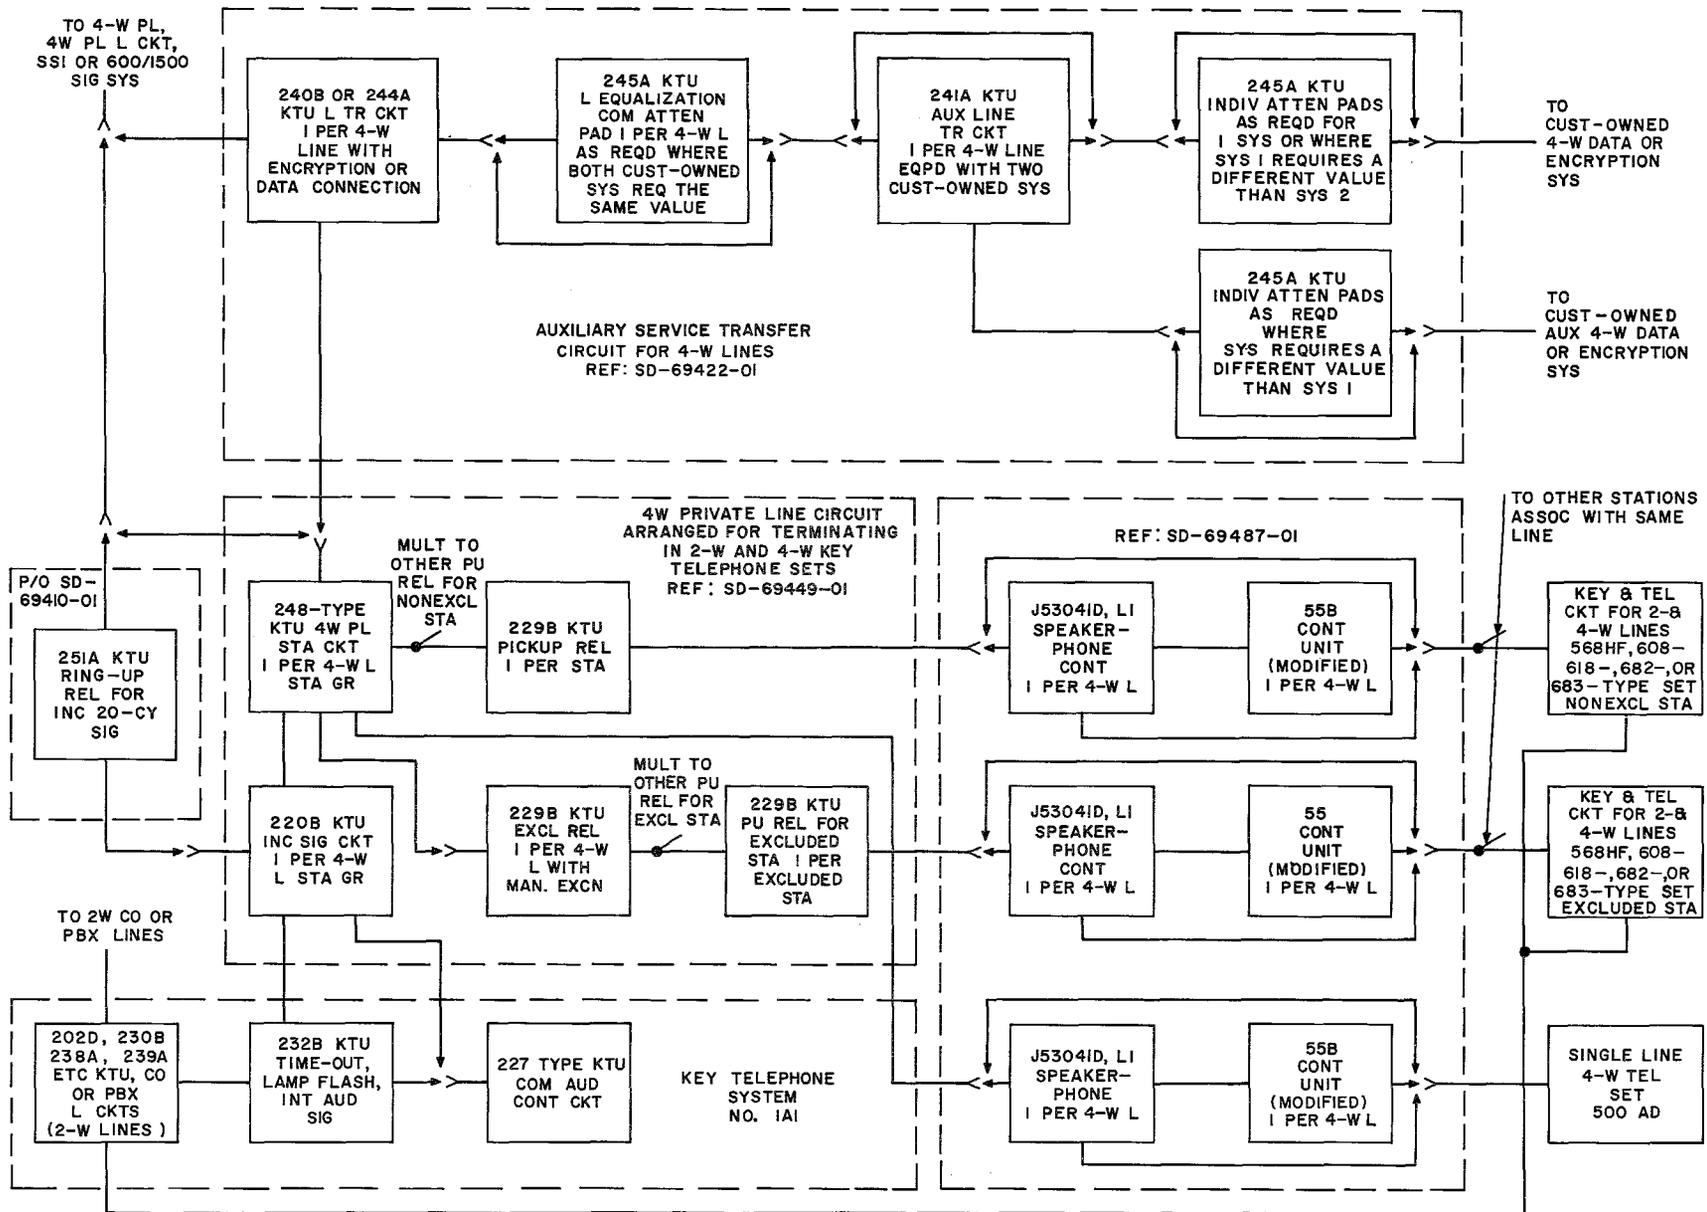

Fig. 1 - Block Diagram, Station Arrangement For 2- and 4-Wire Service
- Show the 565HF telephone set as a replacement for the 565HB which is rated Manufacture Discontinued (MD).
- (a) To provide an arrangement for terminating a 4-wire local battery private line circuit in single line or 2- and 4-wire key telephone sets (Fig. 1).
- Set, Telephone, 683- or 608-(MD) type, 30-button CALL DIRECTOR®
- Set, Telephone, 682- or 618-(MD) type, 18-button CALL DIRECTOR